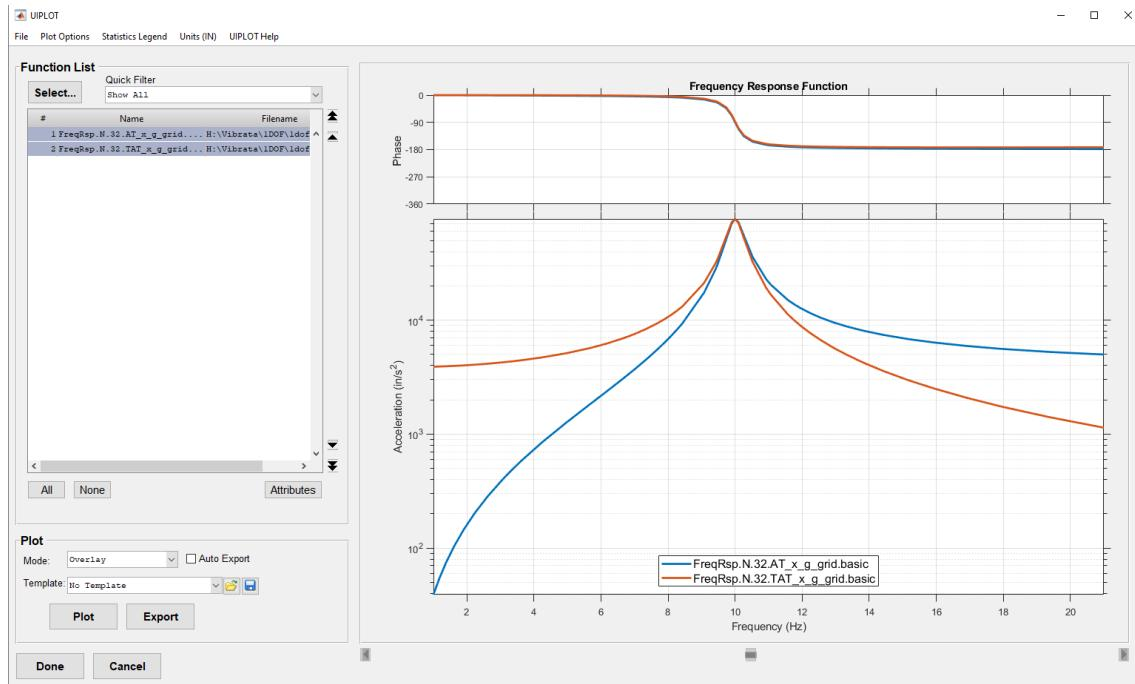

Figure 4-18. Select and plot both requested acceleration responses at once.
c. In the **UIPLOT** dialog, select both functions and click **Plot** to display the results (Figure 4-18). Notice the dynamic amplification and phase change of the responses at the natural frequency.